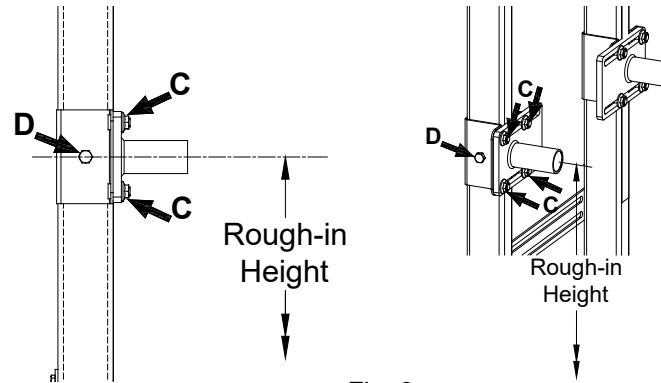

Fig. 3
- b. Loosen 4 (C) nuts on header plate
- c. Loosen height adjustment bolt (D) (on side of header)
- e. Hand tighten height adjustment bolt (D) ensuring the header bracket does not deflect. See Fig. 3
- b. Loosen 4 nuts (C in Fig 3) on header plate
- c. Loosen height adjustment bolt (D in Fig 3) (on side of header)
- e. Hand tighten height adjustment bolt (D in Fig 3) ensuring the header bracket does not deflect.